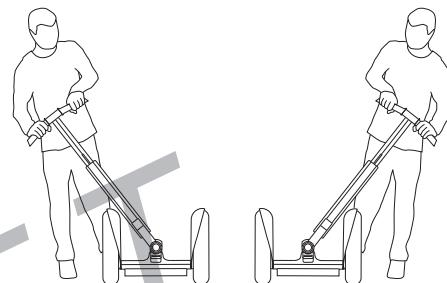

Figure 6: Check LeanSteer Frame
5. With the Segway PT powered down (OFF), lean the LeanSteer Frame fully left and right, until it touches each fender (see **Figure 6**).